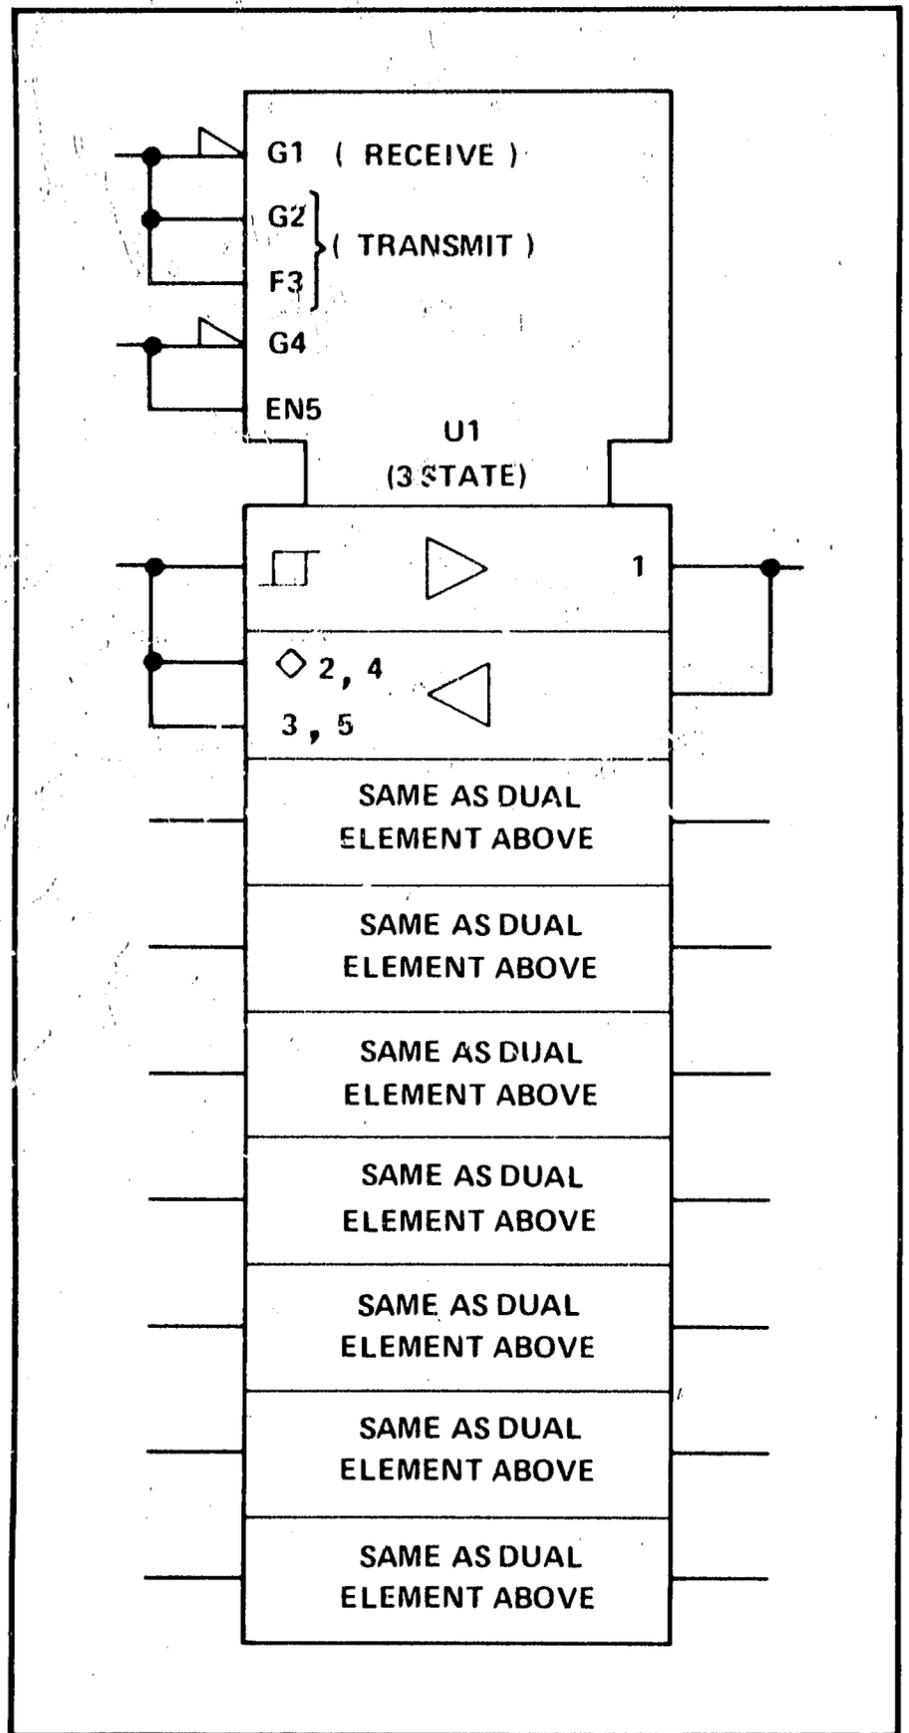

Figure 8-13. HP-IB Data Bus Buffer
Multiple Bus Transceivers. The data bus buffer in Figure 8-13 is used as a buffer between the Transceiver Interface's interface adapter (GPIA) and the external HP-IB data bus. This buffer allows bidirectional data transfer controlled by the talk enable (TE) and pull-up enable (PE) inputs.